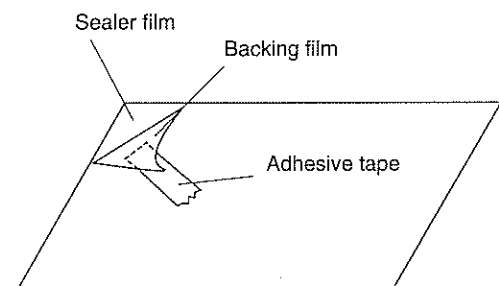

Figure C-10. Sealer film
3. Re-install door panel to door frame by fitting ten (10) tabs of door frame to ten (10) holes of door panel.
4. Put sealer film on door panel. Refer to "Sealer Film" and figure C-10, on how to handle the new film.
5. Catch two (2) pins of door panel on two (2) hole of upper and lower oven hinges.
1. Put the adhesive tape on the backing film of the sealer film as shown in Fig. C-10.